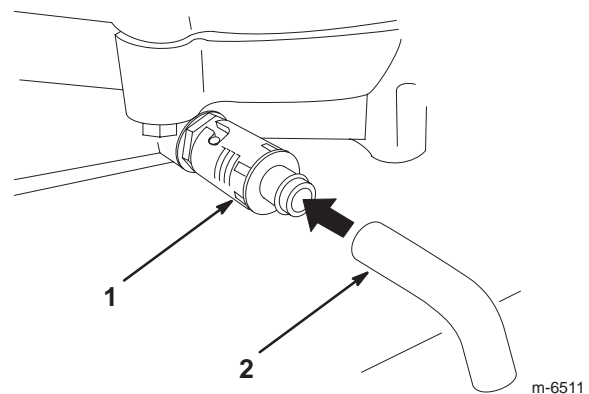

Figure 27
5. Place a pan below the drain hose. Rotate the drain valve to allow the oil to drain (Fig. 27).
6. When the oil has drained completely, close the oil drain valve and remove the drain hose (Fig. 27).